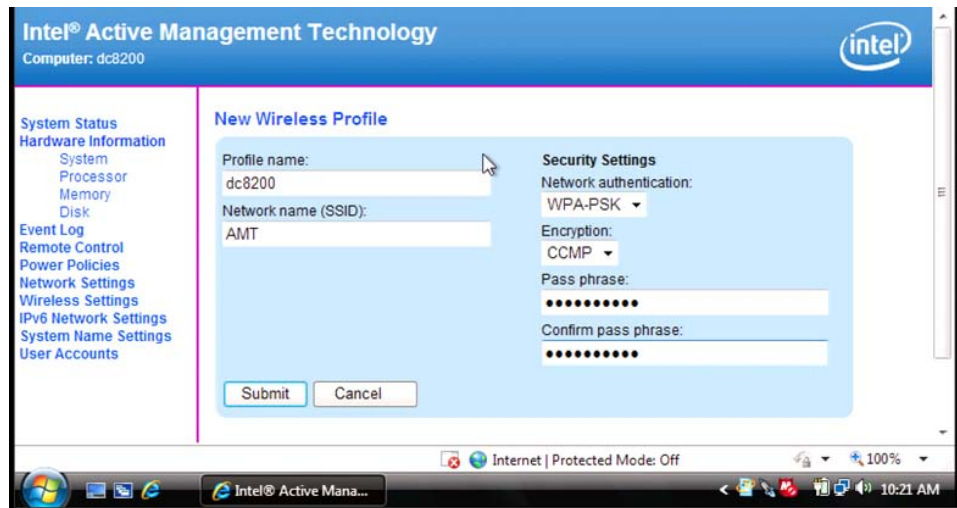

Figure 20. Intel AMT Wireless Settings, New Wireless Profile screen
- iv. Enter the following data for the New Wireless Profile (Figure 20):